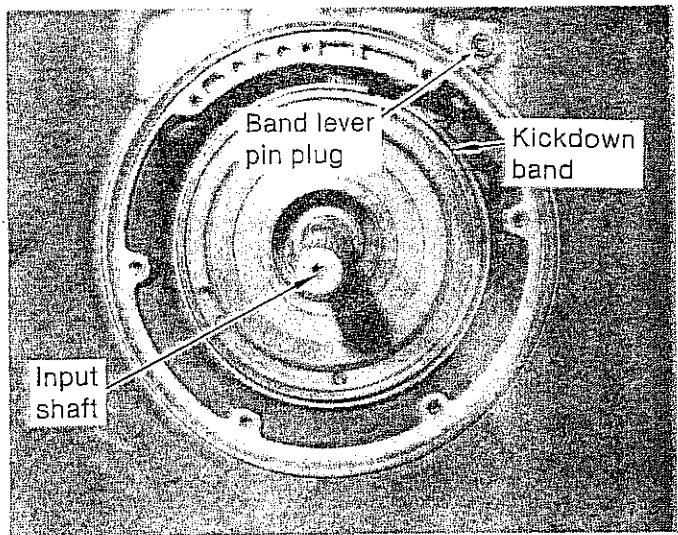
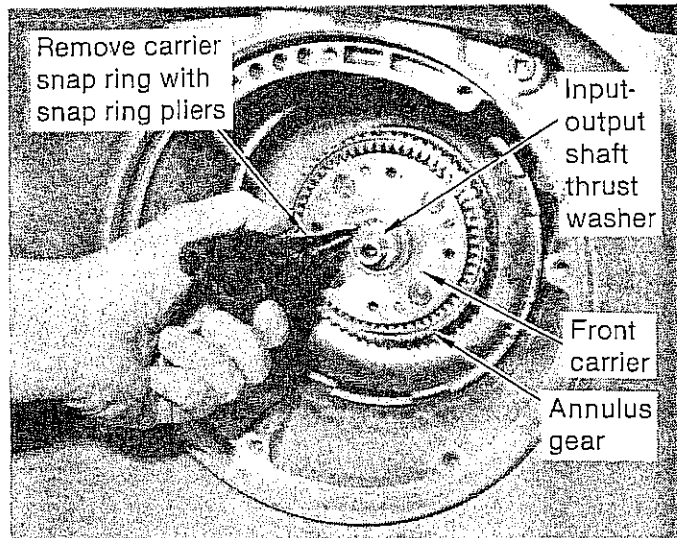

FIGURE 10
FIGURE 11
STEP 5. Remove the kickdown band and set it aside. (See Fig. 10) Grasp the input shaft and remove the entire clutch drum assembly. Be careful not to lose thrust washer between the input and output shafts. (See Fig. 11)
**STEP 6.** Remove the front carrier snap ring with a pair of snap ring pliers. (See Fig. 11) Remove the front carrier and annulus gear. The drive shell thrust washer will probably stick to the back of the annulus gear. Put it in the oil pan. Remove the carrier from the annulus gear. (See Fig. 12) There will be a thrust washer between the carrier and the annulus. Put it in the oil pan. Set the carrier and annulus aside.